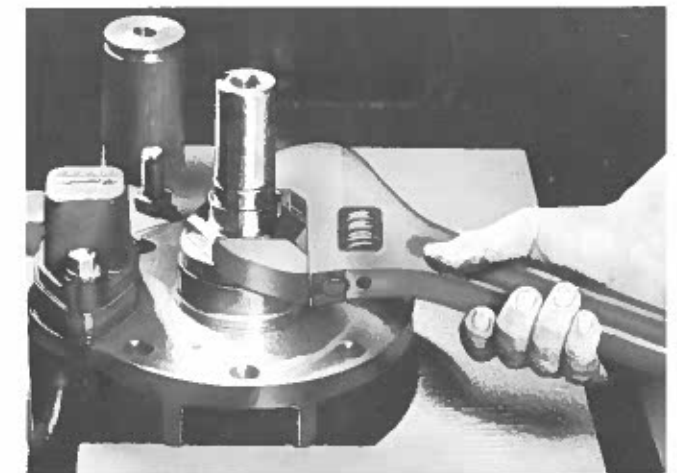

Figure 9 — Tightening Case Closure Nut
10. Refer to Figure 9. Apply approximately 75 foot pounds (100 N.m) torque to securely tighten the case closure nut (003-7) until the case closure ring (486) is metal-to-metal with the top case. This action places the mercury seal in operating condition by locking the baffle (014) to the case (076) while freeing the housing (650-1) to rotate with the shaft.